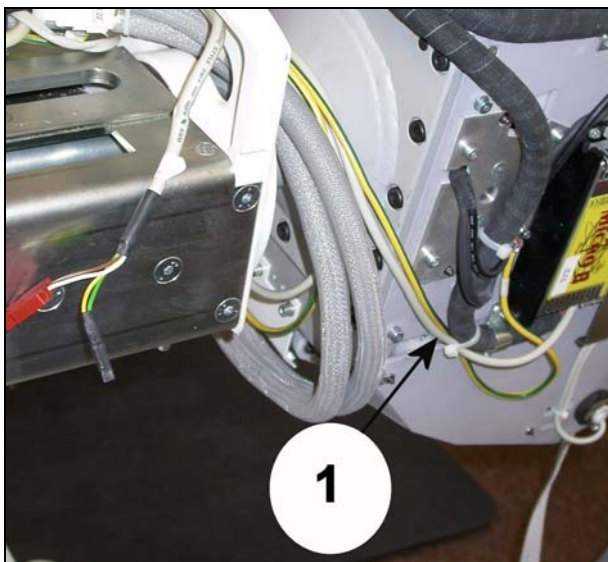

Fig. 6
- Run and connect the protective ground wire and the cable (1/Fig. 6) to the new cable module. These cables also lie with one turn around the angulation axis.
- Fasten the two cables to the cable module using cable ties (Fig. 6).